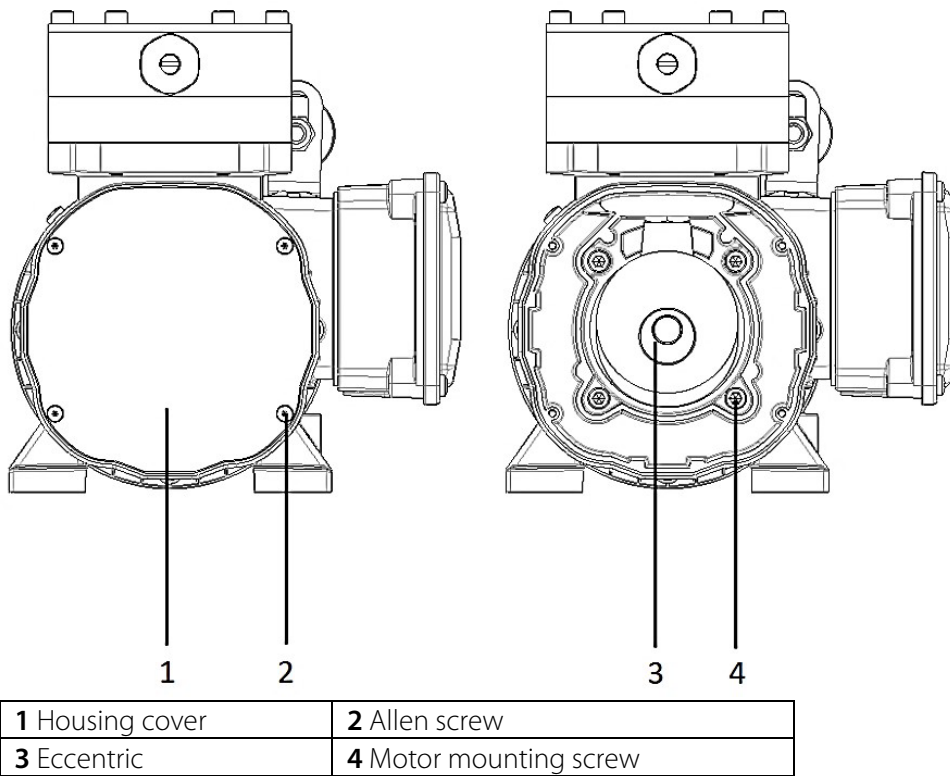

Figure 18 Remove housing cover, move connection rod in upper position
1. Loosen and remove the four Allen screws (Figure 18/2) of the housing cover (Figure 18/1).
2. Remove housing cover (Figure 18/1).
5. Put on the housing cover (Figure 18/1) and tighten it with the four Allen screws (Figure 18/2) (tightening torque: 15 Ncm).